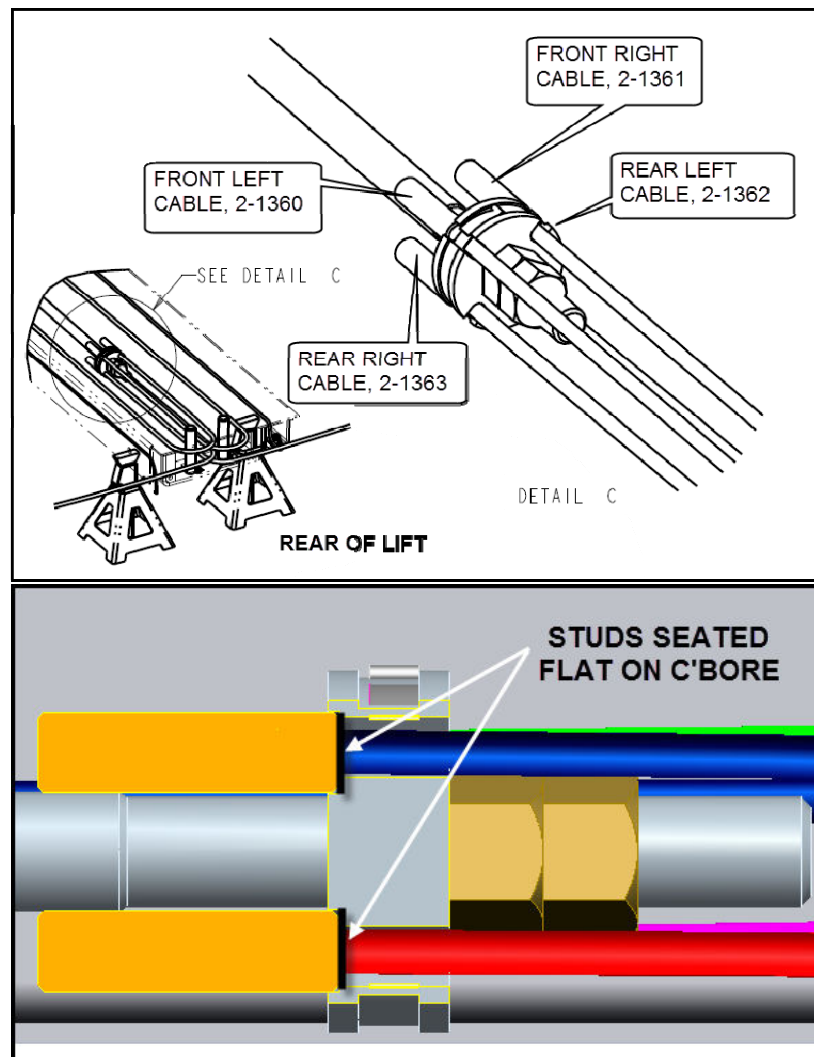

Figure 7. Cable Flange and Cable Assembly
6. Loosen the hose clamp on the cable flange and assemble the studded end of each cable to the flange as shown in **Figure 7**. Ensure the cable studs are seated properly in the counterbore. Tighten the hose clamp.
7. Use **Figure 7** as reference during the rear pulley stack and cable assembly. Each cable will enter the pulley stack in the middle of the runway and wrap around the pulley 90 degree (for rear) or 180 degrees (for front).